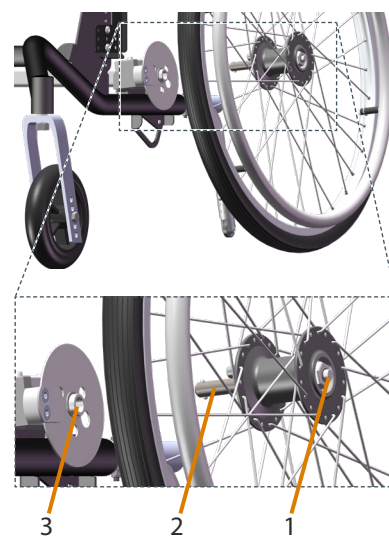

Figure 6. Wheel removal
- Press the release button (1, Figure 6) in the hub, pull off the wheel.
- Insert the axle (2) in the wheel mount housing (3), see Figure 6.
- Press the quick-release button (1) on wheel hub.